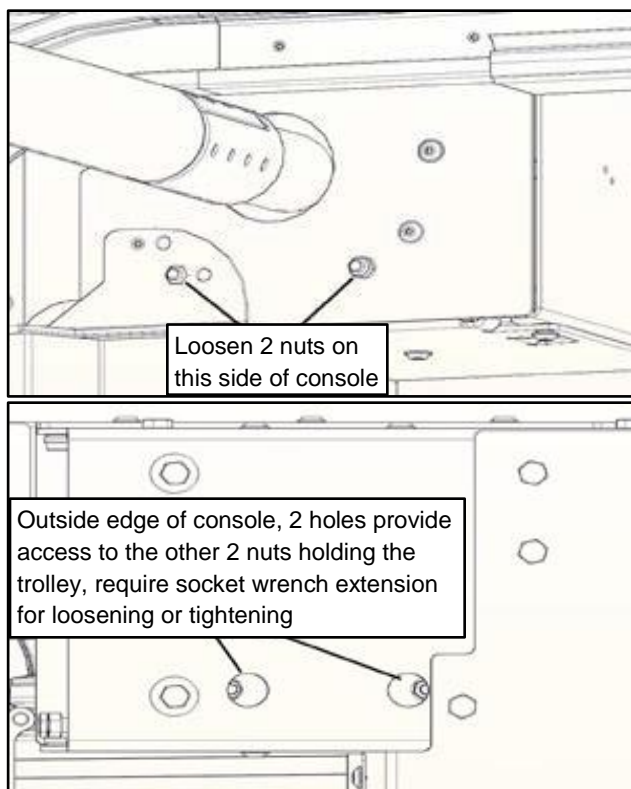
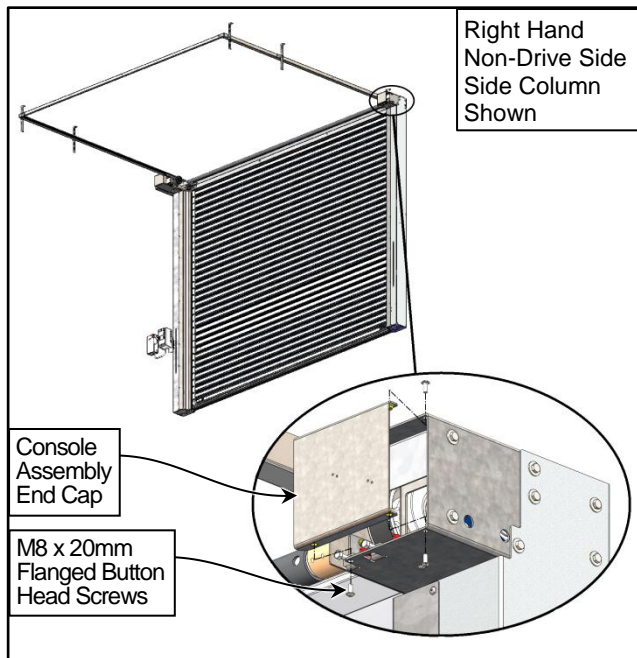

Figure 56
Figure 57
5. The S – Size trolley has four nuts that must be loosened before trolley adjustment can be made. Two are located on the side of the console and two can be accessed via two holes on the outside of the console. A socket extension will be required to perform this procedure. The face of the console can also be removed providing greater access to the nuts. (See Figure 56 & Figure 57)
- Removing the face of the console may provide greater access to belt. (See Figure 57)